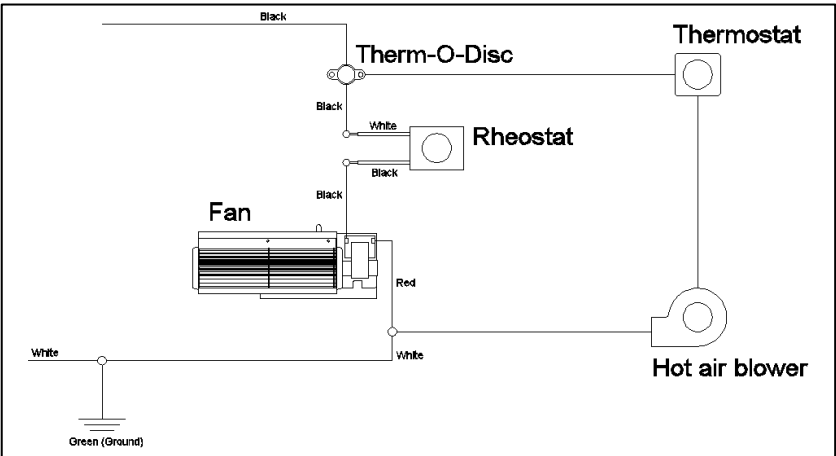

Figure 4-2: Electrical Diagram for P Connection of Hot Air Kit and Blower Kit
8. Make the electrical connections (Figures 4-2 and 4-3). Note that the power supply to the blower is 115V.